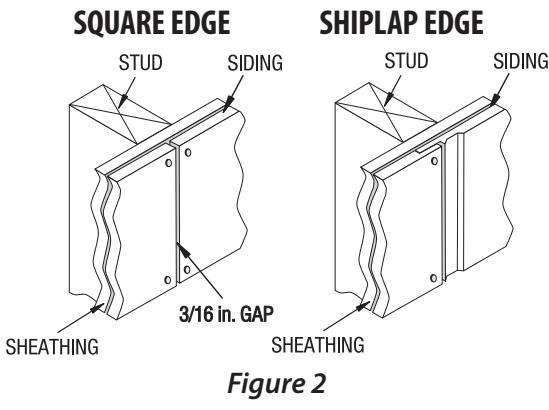

Figure 2
- All siding joints must be located on studs (see Fig. 2).
- For square edge panels, there must be a 3/16 in. gap at the vertical joint (see Fig. 2). This gap must be sealed. It is recommended to cover the joint with a wood batten strip. TruWood Trim is recommended for batten material.
- Leave 3/16 in. gap around all doors, window frames and corners. Seal all gaps (see Fig. 2 and 3).